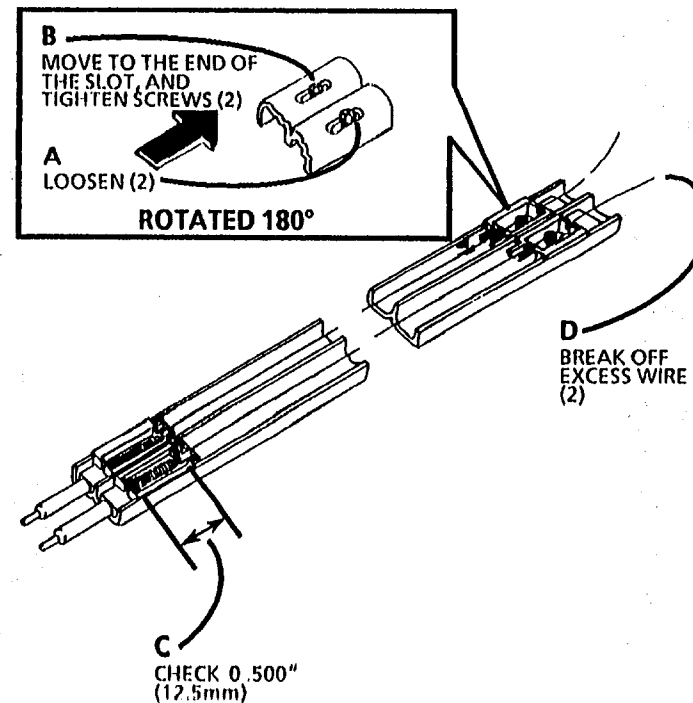

Figure 5. Tension Springs
4. (Figure 5): Tension springs.